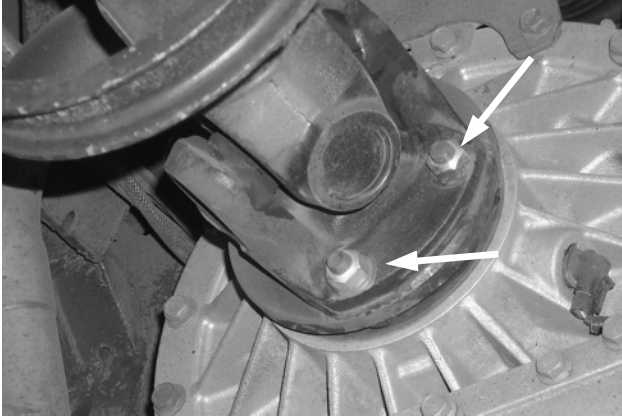

Figure 6: Propeller shaft mounting bolts (2 of 4 shown)
- 3) Undo and remove the nuts and bolts securing the propeller shaft to the transmission flange (see Figure 6).